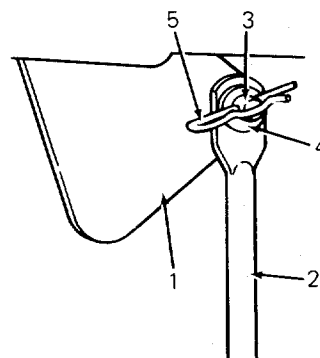

Figure 39
- Remove the four lift links from the lift carriage lift pins as follows: Lift the deck slightly by hand and remove the hairpin cotter and flat washer which secure each lift link to the lift pins. (Refer to Figures 39 and 40.)